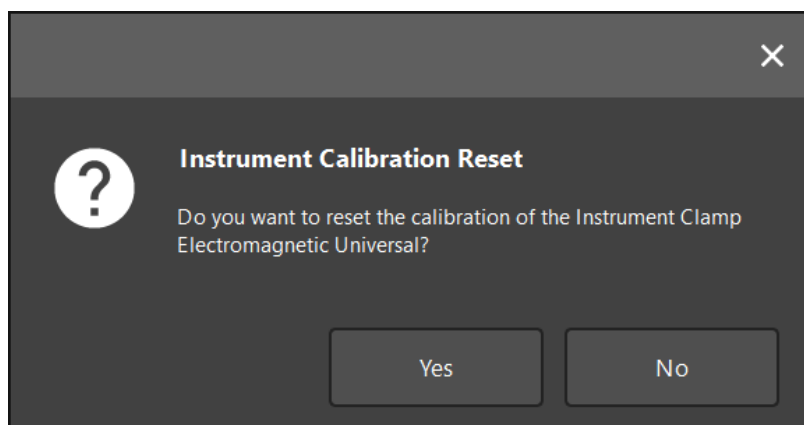

Figure 130 Confirm the reset of the instrument calibration
1. A calibration can be reset by clicking the instrument status indicator of the active instrument tracker and confirming the following dialog as shown in Figure 130: